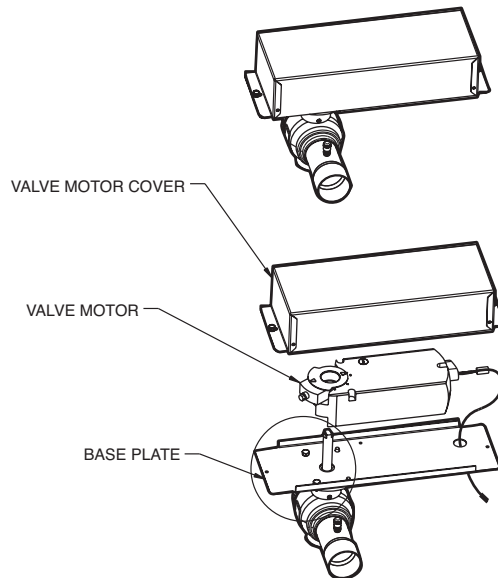

**Fig. 41 — Typical ABV Assembly with Enclosure**
**ACTUATED BALL VALVE (ABV) (FLOODED COOLER ONLY)** — For chillers equipped with this option (standard in most regions), either one or two discharge ABVs are located in the discharge line of each circuit of the unit. See Fig. 41 for a typical ABV assembly with enclosure. The ABV is a motorized ball valve, which is used to close the discharge line to prevent refrigerant migrating from condenser to the cooler when the circuit is off. The valve will be opened before the compressor is started and will normally close when pressure equalizes between suction and discharge lines.